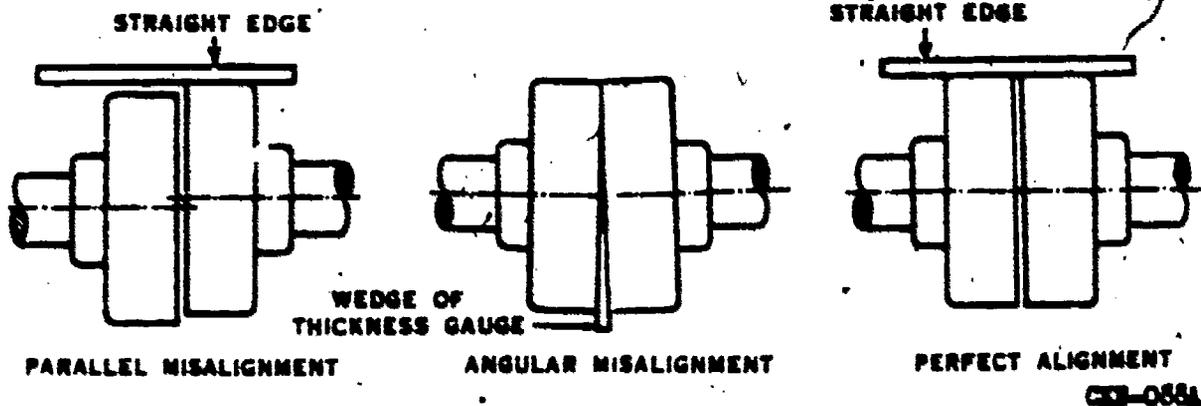

Figure 16
**NOTE:** There are two types of misalignment encountered with flexible couplings: angular misalignment in which the shafts are not parallel, and parallel misalignment where the shafts are parallel but not on the same axis. See figure 16.